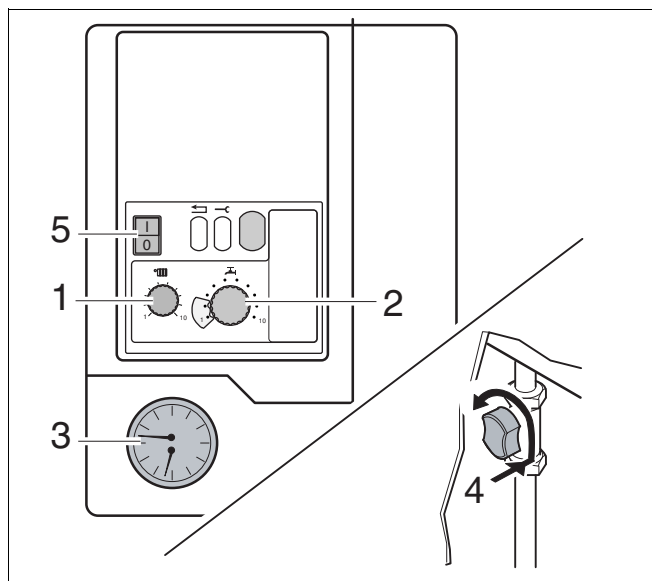

fig. 1 Control panel, pressure display, gas service valve
- Check the water pressure (fig. 1, item 3).
- Adjust the flow temperature on the controller (fig. 1, item 1) using table 1.
- Adjust the hot water temperature on the controller (fig. 1, item 2) using table 2.
- Open the gas service valve: push in and turn to the left in vertical position (fig. 1, item 4).
- Turn the mains switch (fig. 1, item 5) into position "I".